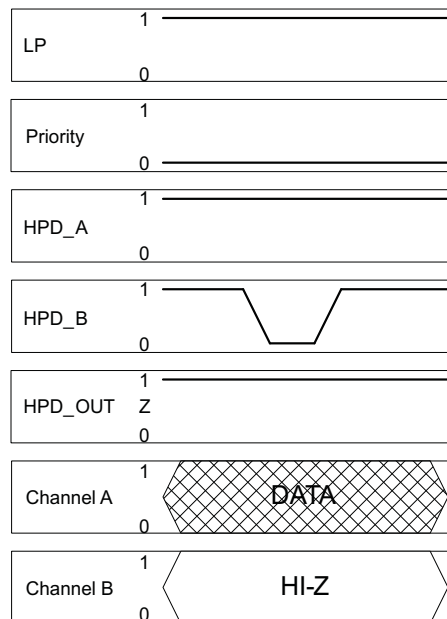

**Figure 23.**
- Case two: In this case both HPD inputs are initially HIGH and the selected port has been determined by the state of the priority pin. The HPD output logic state follows the state of the selected HPD input. If the HPD input pulses LOW, the HPD output to the source also pulses LOW for the same duration of time, again with a slight delay (see Figure 22). If the duration of the LOW pulse exceeds  $t_{T2(HPD)}$ , the device assumes that an unplug event has occurred and the other port is selected (see Figure 23). The case in which the previously selected port with priority goes high again is covered in scenario 3.